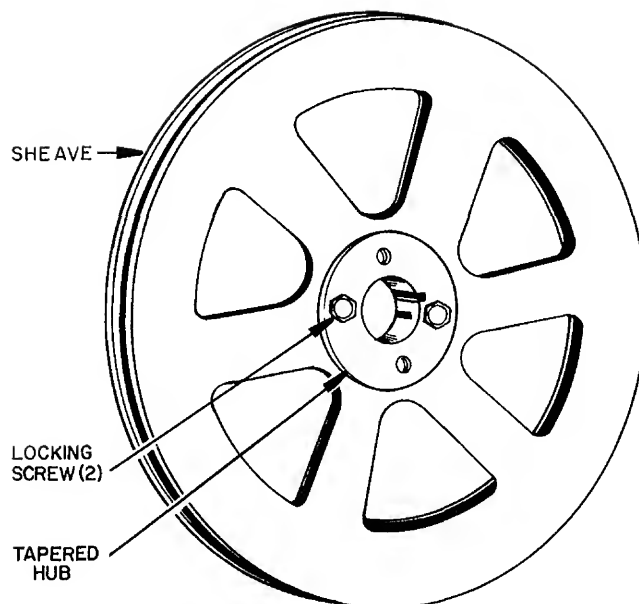

Fig. 4 – Fan Shaft Sheave
2. Loosen and remove locking screws. Refer to Fig. 4.